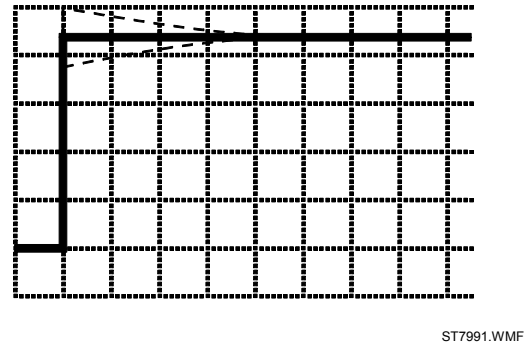

Figure 5-10. 10:1 Probe Calibration
4. Press **F4** to start the probe calibration. A square wave appears on the screen. See Figure 5-10 (the lower half of the screen is covered with operating instructions).